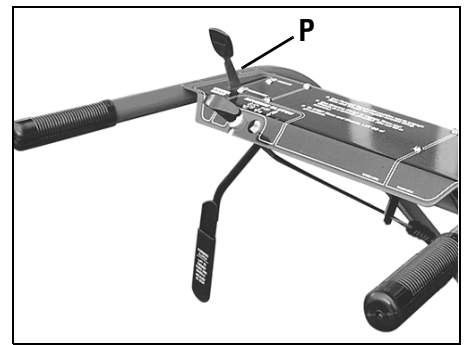

Figure 2-12: Attach Wheel Gear Lever.
1. Insert the Wheel Gear Lever (P, Figure 2-12) up through the slot in the control panel that is labeled “WHEEL GEAR.”